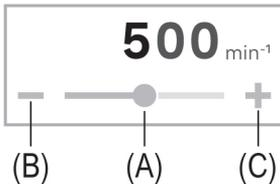

Figure 11.
Slide the slider (A), or touch [-] (B) or [+] (C) (Figure 11).